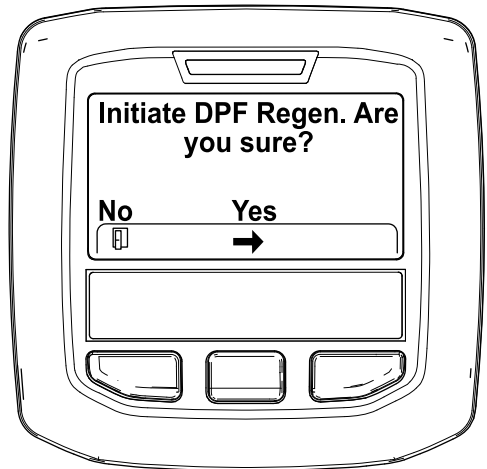

Figure 31
4. When the "Initiate DPF Regen. Are you sure?" message displays, press the center button (Figure 31).